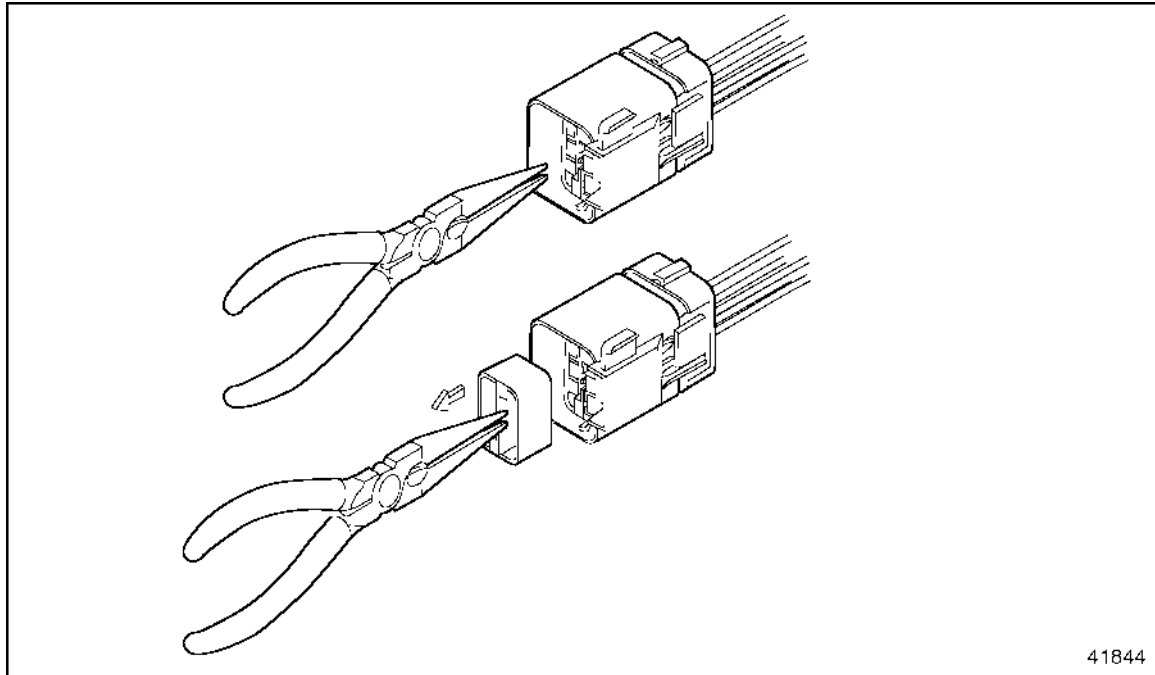

Figure 3-44 **Removing the Terminal**
1. Using pliers pull out the blue Terminal Position Assurance (TPA) that is located inside the connector (see Figure 3-44).
3. Pull the cable back through the connector (see Figure 3-44).